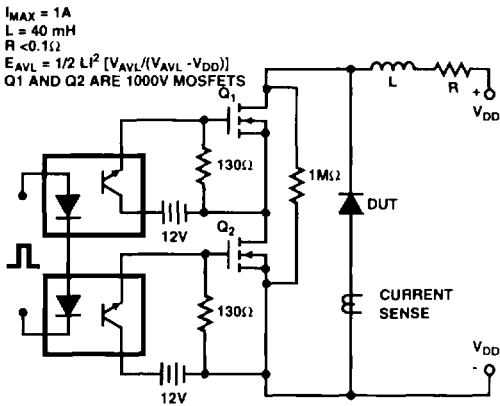

FIGURE 7. AVALANCHE ENERGY TEST CIRCUIT
- E_{AVL} = Controlled avalanche energy (See Figures 7 and 8).